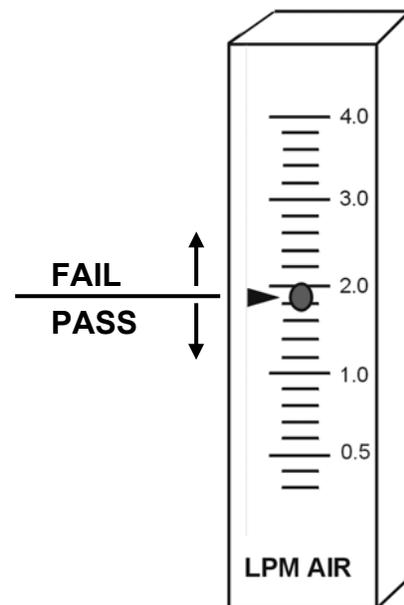

Figure 2
4. Position the flow meter's red 'pointer flag' so that it aligns with the measurement observed in the previous step (See Figure 2). Press ON / OFF switch to turn the tester off.